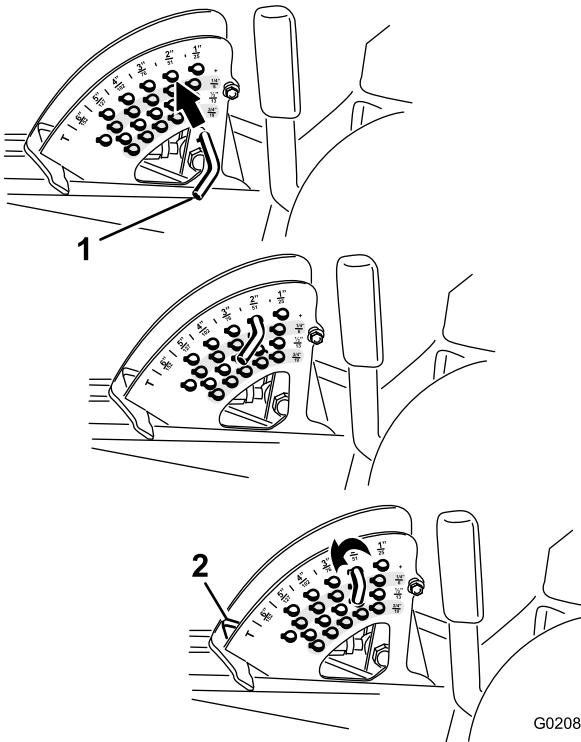

Figure 12
2. Rotate the stop pin until the roll pin in it lines up with the slots in the holes in the height-of-cut bracket and remove it (Figure 12).
3. Select a hole in the height-of-cut bracket corresponding to the height of cut desired, insert the pin, and rotate it down to lock it in place (Figure 12).
Note: There are 4 rows of hole positions (Figure 12). The top row gives you the height of cut listed above the pin. The second row down gives you the height listed plus 6 mm (1/4 inch). The third row down gives you the height listed plus 12 mm (1/2 inch). The bottom row gives you the height listed plus 18 mm (3/4 inch). For the 15.8 cm (6 inch) position, there is only 1 hole, located in the second row. This does not add 6 mm (1/4 inch) to the 15.8 cm (6 inch) position.